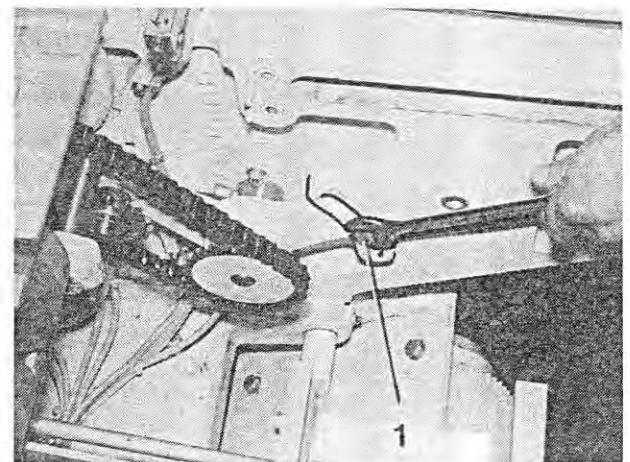

Fig. 66
3. To adjust the chain tension, loosen the locking screw (Figure 66/1). Relocate the adjustment facility and the sprocket wheel appropriately and tighten the locking screw.